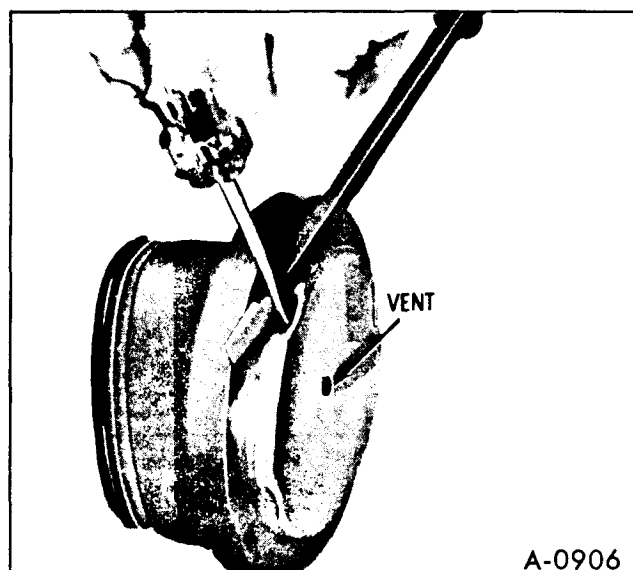

Figure 25—Removing Cover from Housing
9. If necessary to remove cover, proceed as shown in Figure 25 and discard cover.